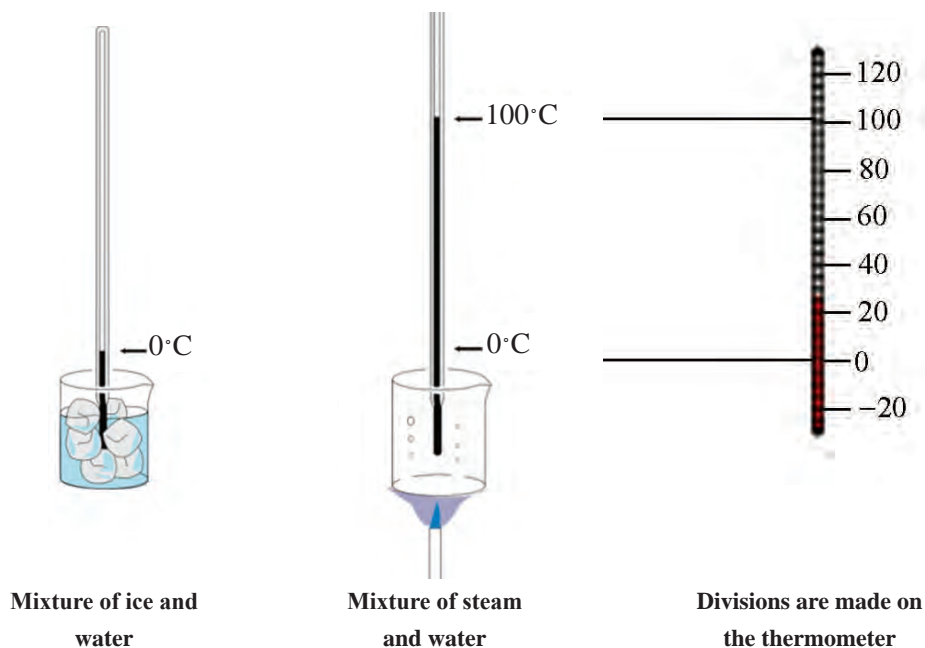

Fig. 27: Thermometer calibration
- 6 The ice point of water is remarkably stable at 0.00 °C (Fig.27).